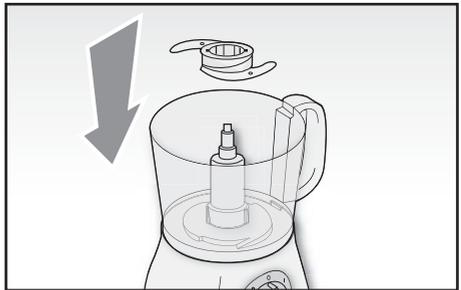

Fig. 5
Install the dedicated accessory (E) on the blade support (D). The fissures on the center of the blade must be positioned upwards and coincide with the notches on the blade support. Press the blade on the blade support (Fig. 5).